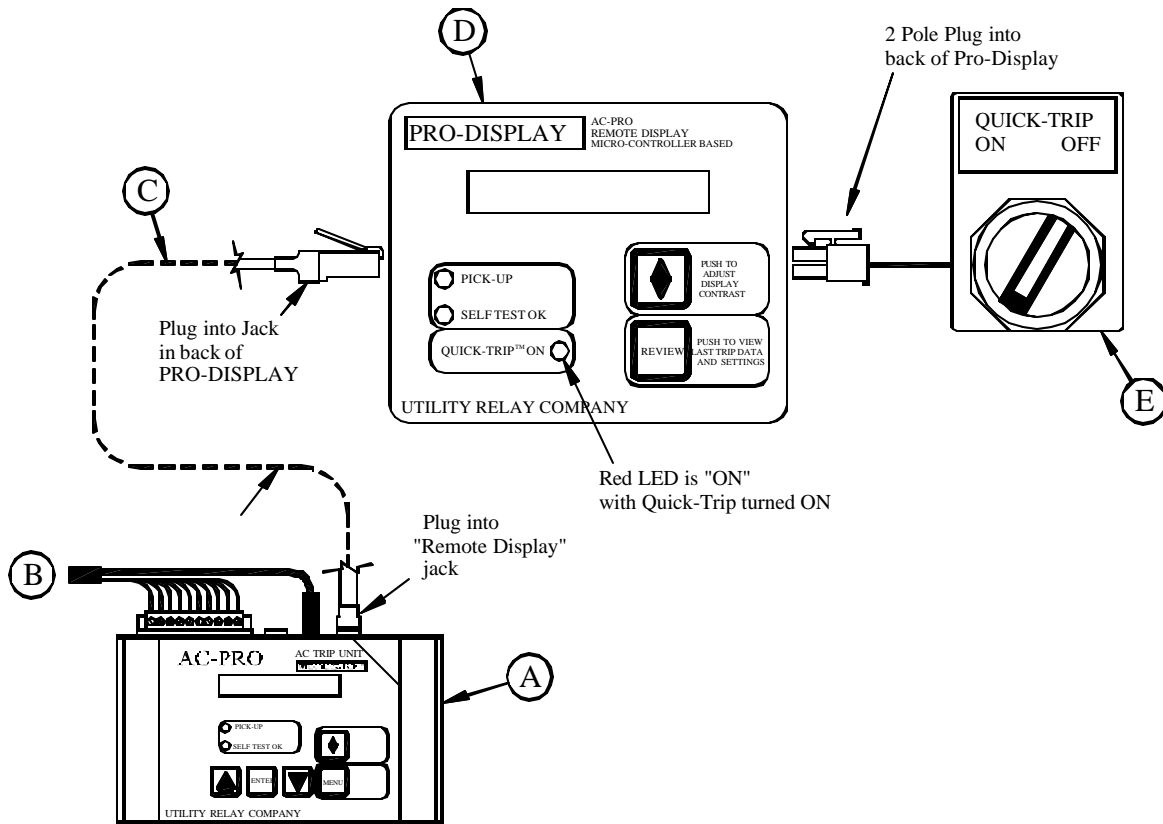

Figure 3
In order to test the Quick-Trip™ settings, the PRO-DISPLAY (D) and Quick-Trip™ ON/OFF Selector switch (E) must be connected as shown in Figure 3.
- 1) Connect the Pro-Display (D) and the Quick-Trip™ ON/OFF Selector switch (E) as shown in Figure 3.
- 2) Set the Quick-Trip™ ON/OFF Selector switch (E) to ON.
- 3) Hold down the Current Preset (13) while adjusting the Amp Coarse (14) and Fine (15) pots to 90% of the calculated QT-I_{SPU}.
- 4) Set the Phase selector (11) to either Phase A, B or C.
- 5) Push the Start (5) button but leave the test current on only long enough to see if a QT-I trip occurs.
- 3) Set the Phase Selector (11) switch to GF.
- 4) Hold down the Current Preset (13) while adjusting the Amp Coarse (14) and Fine (15) pots to 90% of the calculated QT-GF_{SPU}.
- 5) Push the Start (5) button but leave the test current on only long enough to see if a QT-GF trip occurs.